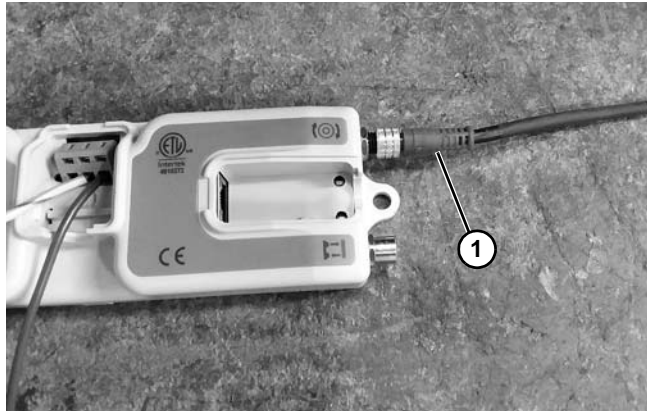

Figure 14
13. Attach motor plug to motor controller. An extension cord (Figure 14, item 1) for motor plugs are available.